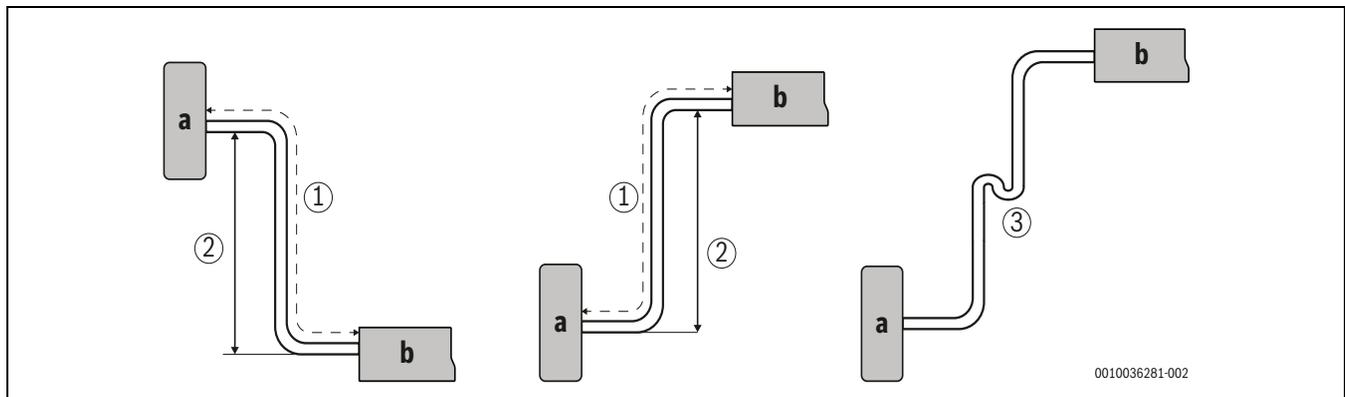

Fig. 10 Pipe length and elevation
- 1) Check for the (1) marked in →Fig. 10
- 2) Check for the (2) marked in →Fig. 10